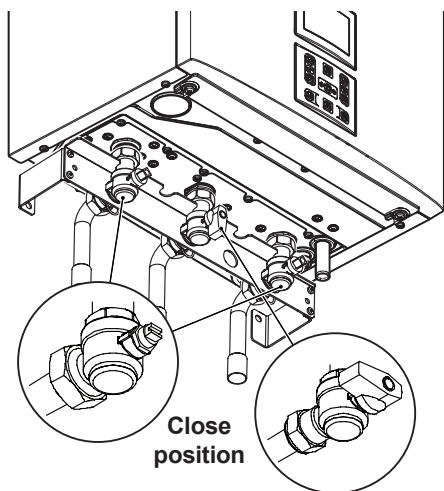

Fig. 2.25
- Shut off the gas supply cock and the valves for the water circuits fitted under the boiler Fig. 2.25.